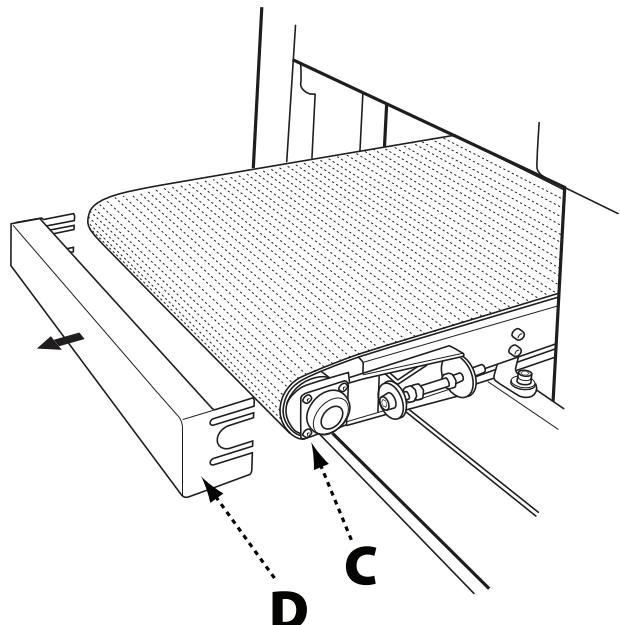
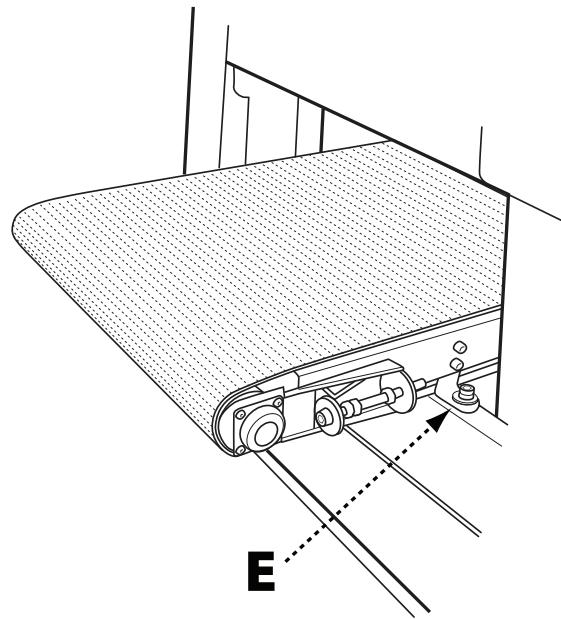

FIG. 9
FIG. 10
3. Loosen but do not remove the eight Philips head screws (C) holding the bearings to either side of the front of the feed table. See Fig. 9.
4. Remove the front guard (D) by sliding it forward.
5. Locate and remove the four 6mm hex head screws (E) securing the feed table to the base. See Fig. 10.